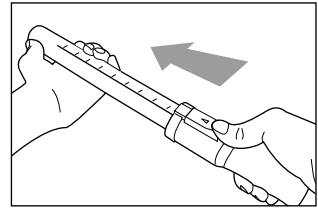

Fig. 5
Once the attachment has been fitted, it is possible to extend the telescopic tube using the lever (FIG. 5) to move it to the required length. Release the lever to stop the tube in the required position.
- Push the slider device (N) forwards and pull the bottom section of the tube out to the required length (Fig. 5). To shorten the tube, push it back in the opposite direction.